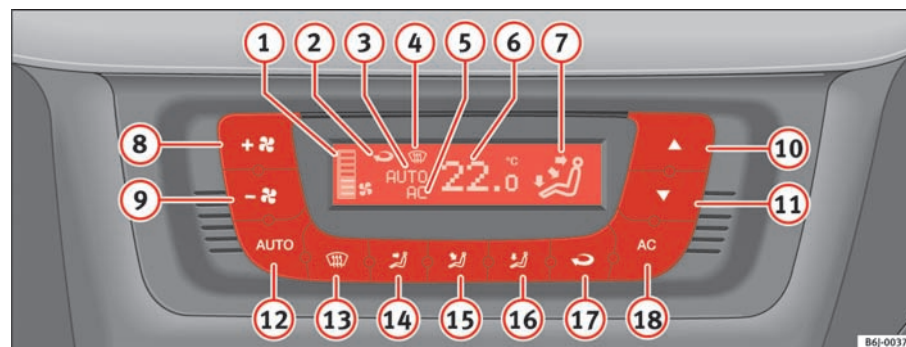

Fig. 89 On the instrument panel: Climatronic controls
- Turn the temperature selector $\Rightarrow$ page 125, fig. 89 ⑩ to adjust the desired temperature.
- ① Blower level indicator.
- ② Air recirculation display:
- ③ Display **AUTO** (automatic operation)
- ④ Demisting indicator
- ⑤ AC indicator (Cooling connected)
- ⑥ Interior temperature indicator selected
- ⑦ Air flow direction indicator
- ⑧ Fan speed increase
- ⑨ Fan speed decrease
- Press the button **(AUTO)**. The display is visible $\Rightarrow$ page 125, fig. 89 ⑦.
- Press one of the buttons $\Rightarrow$ page 125, fig. 89 **(14)** to **(16)** or press the blower control **(8)** and **(9)** down. The indicator is switched off **(3)**.
The blower can be adjusted with **(8)** and **(9)** $\Rightarrow$ page 125, fig. 89 buttons. If the blower is off (level **(1)** is not shown on the screen) and button **(9)** is kept pressed down, the Climatronic switches off. Then **OFF** is displayed on the screen.
- Press the button **(5)** to switch air recirculation mode on or off. This is ON if the symbol **(6)** $\Rightarrow$ page 125, fig. 89 is displayed on the screen.